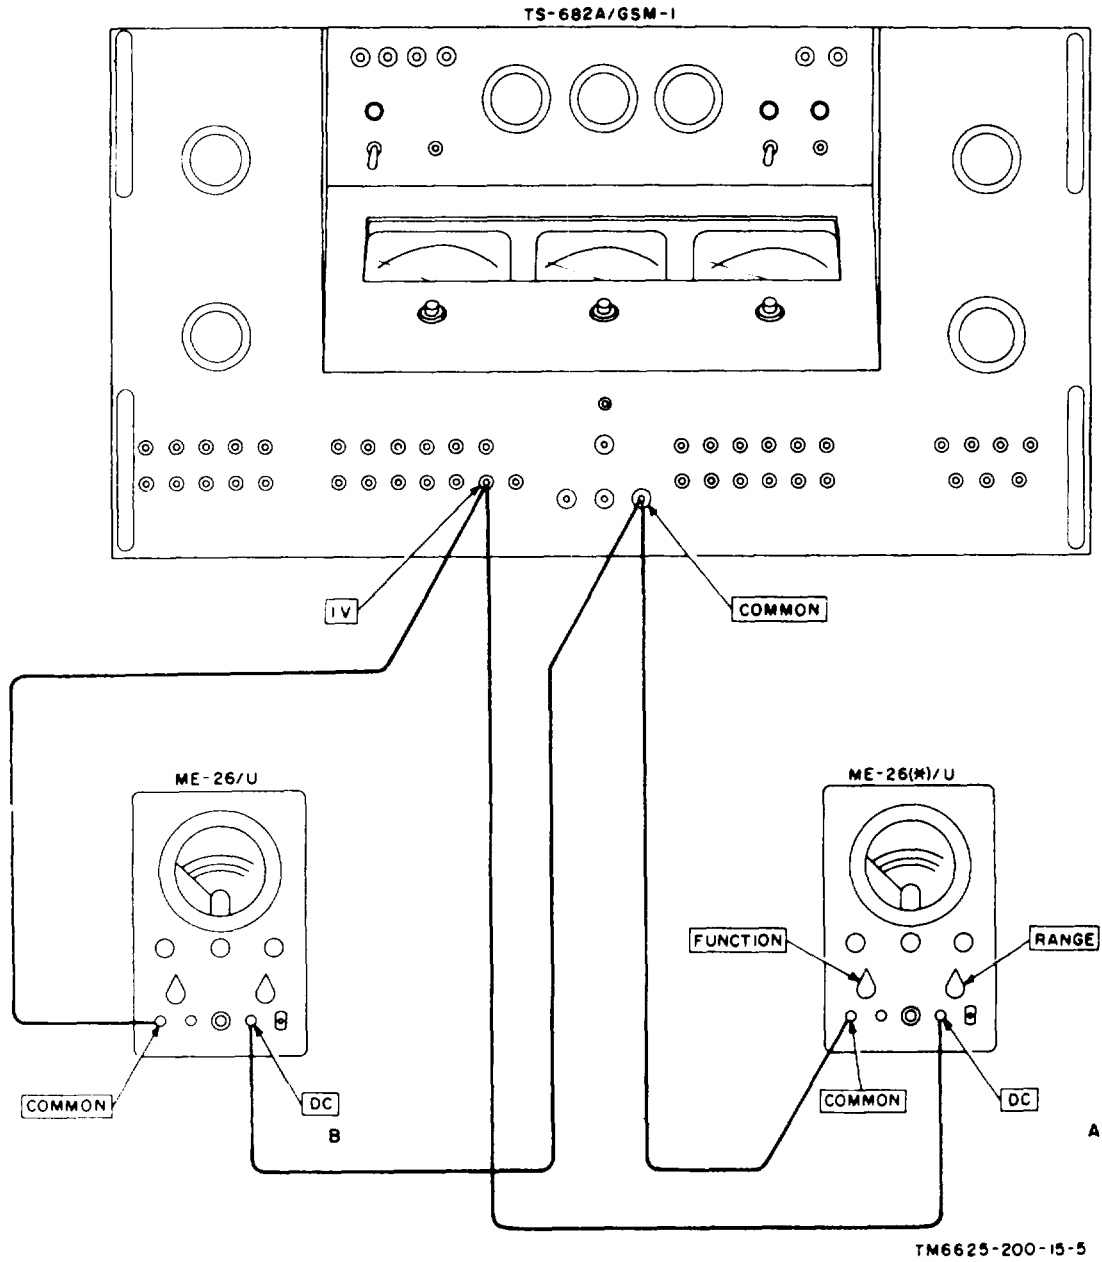

Figure 8-2. Reverse polarity and meter tracking test setup.
- b. *Test Connection and Conditions. Connect the equipment as shown in figure 8-2.*